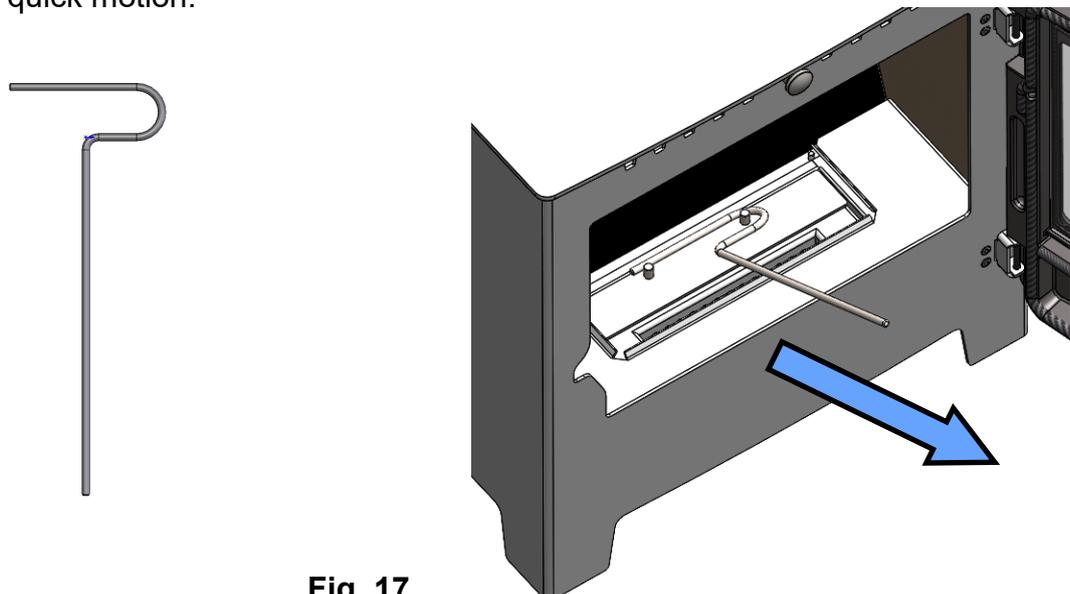

Fig. 17.
- Take the hook end of the operating tool and engage onto the two pins of the closure plate. See Fig. 17.